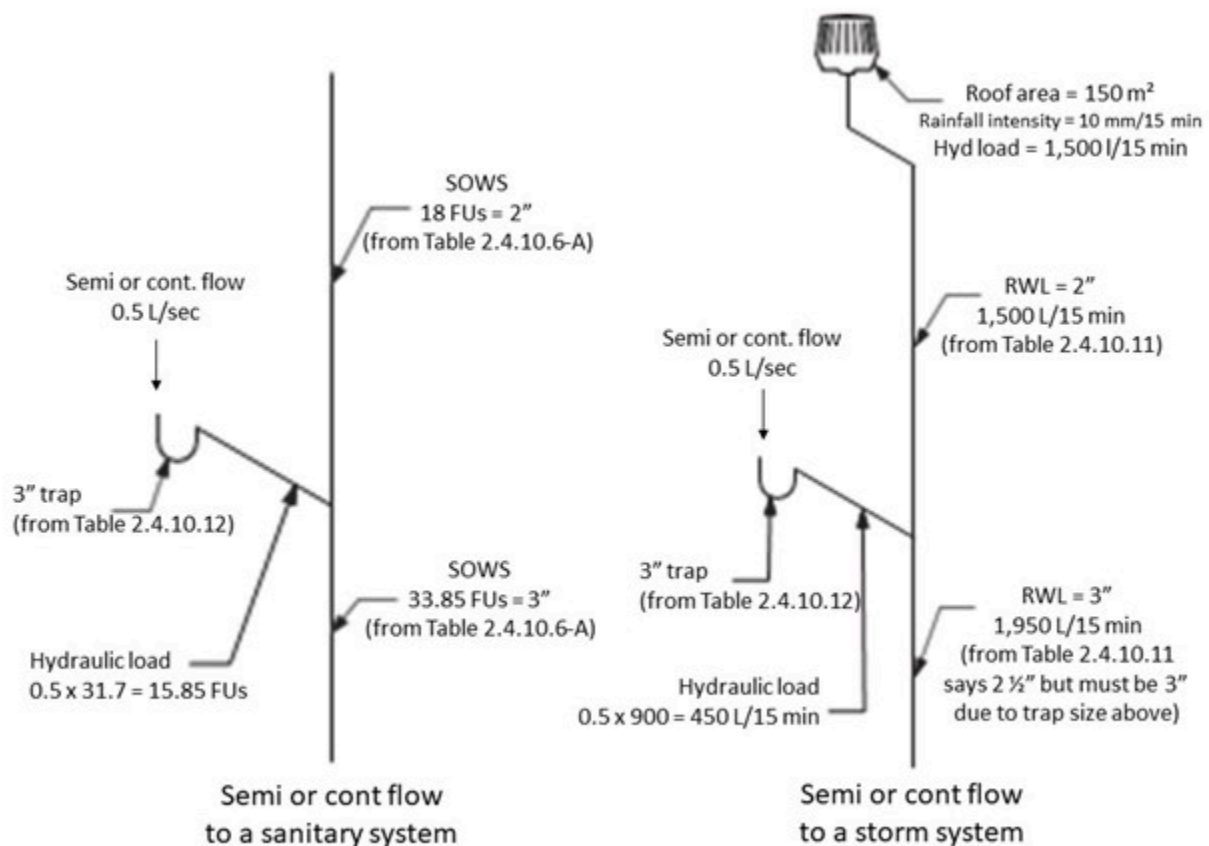

Figure 1 Semi or continuous flow fixture into a sanitary system vs a storm system
- Figure 1 Sanitary building drain and sewer by ITA is licensed under a CC BY-NC-SA licence.